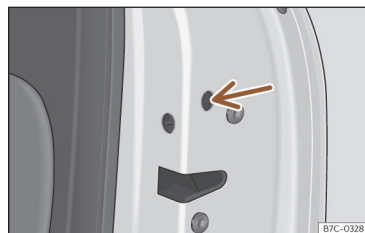

Fig. 52 Locking the door manually.
- Insert the key in the slot >>> **Fig. 52** (arrow) and turn it to the right as far as it will go (if the door is on the right side) or to the left (if the door is on the left side).